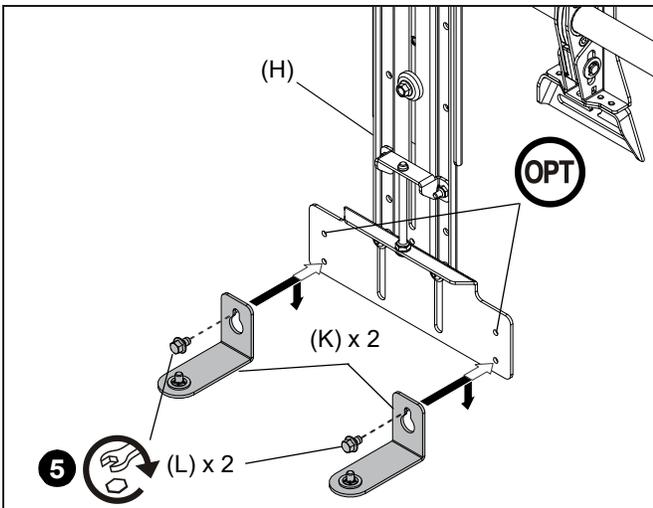

Figure 6
5. Install two interface assemblies (K) to the bottom of lower adjustment assembly (J) using two 1/4-20 x 3/8" hex head screws (L). (See Figure 6)